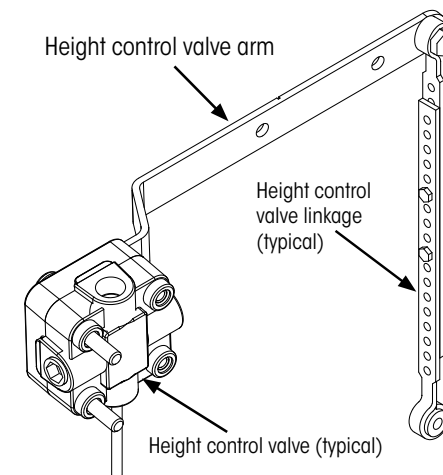

Figure 1: Typical height control valve components
1. **Disconnect** the height control valve linkage (Figure 1) at the lower bracket.